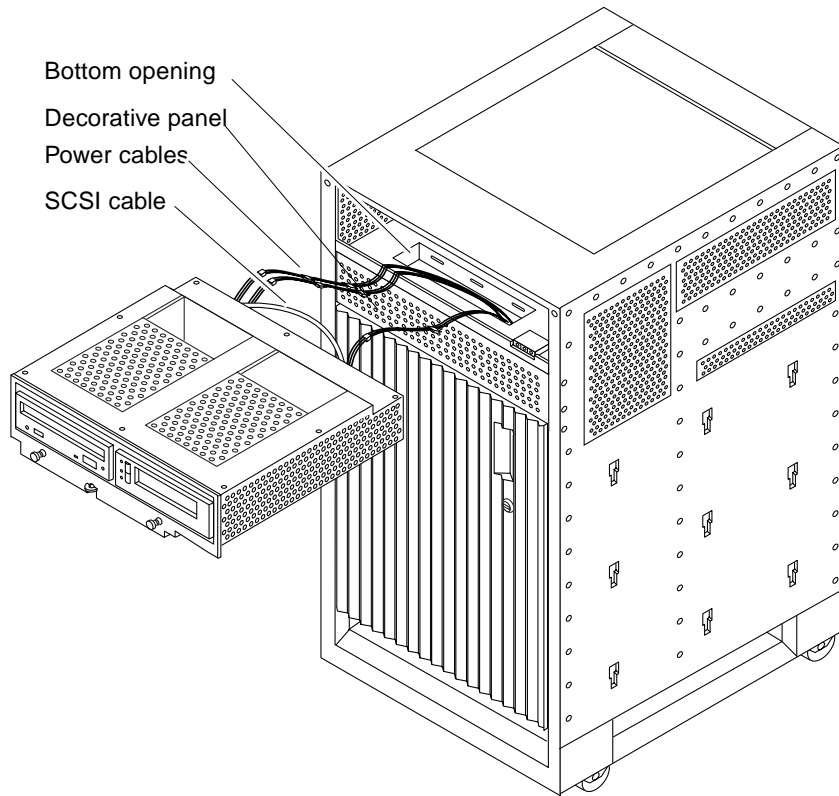

FIGURE E-6 Removing the Media Tray
3. Grasp the media tray and gently pull it from the chassis (FIGURE E-6).
The cables should be visible through the opening normally covered by the front decorative (perforated) panel (FIGURE E-6).